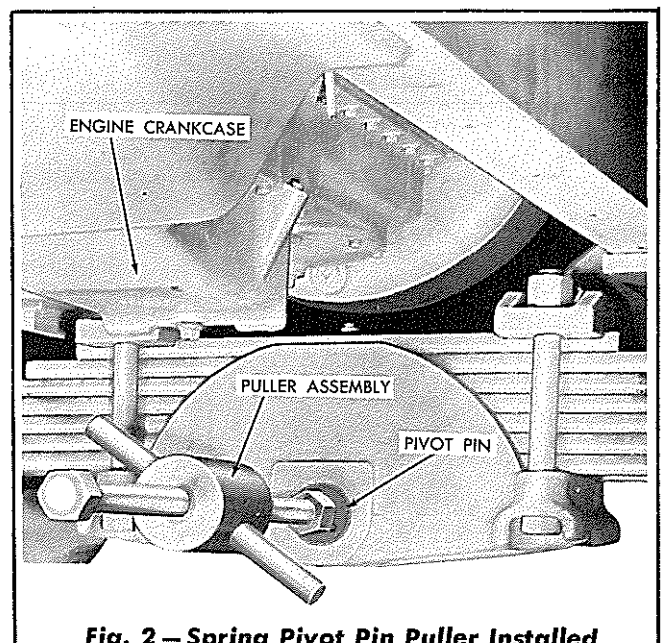

Fig. 2 — Spring Pivot Pin Puller Installed
6. Install the sliding hammer type puller as shown in Fig. 2 and remove the equalizer spring pivot pin. The free end of the equalizer spring should be supported with a block when pulling the pin.